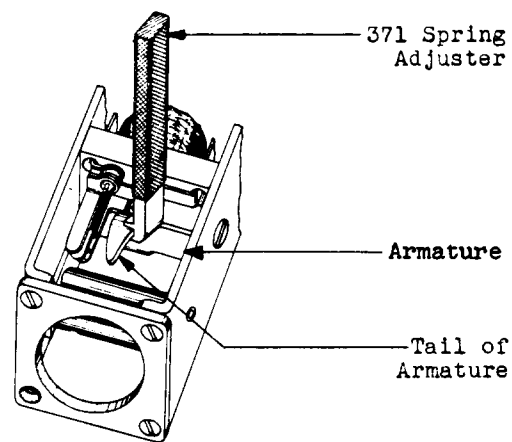

Fig. 10 — Adjusting Tail of Armature
(3) If the contact separation and contact follow are close to their respective minimum values and the relay fails to meet its operate requirement, it may be due to the tail of the armature being distorted so that the armature gap does not decrease uniformly as the relay operates, or due to an excessive gap between armature and core when the armature is in its operated position.
(4) If the tail of the armature is distorted, remove the relay from the mounting as described in 3.002 and operate the armature manually, noting that the separation between the armature and core is least when the armature is in the fully operated position. Should this separation be less at any other point, adjust the tail of the armature with the 371 spring adjuster applied as shown in Fig. 10. Hold the armature in the operated position and adjust the required portion of the tail of the armature by exerting a slight pulling force on the spring adjuster (toward the front of the relay). Exercise care when adjusting the tail of the armature since the slightest deformation may affect the correct operation of the relay. After each adjustment of the tail of the armature, operate the armature manually and recheck the separation between each point on the armature and the core as the armature is being operated.
(5) If the gap between the armature and core is excessive when the armature is in